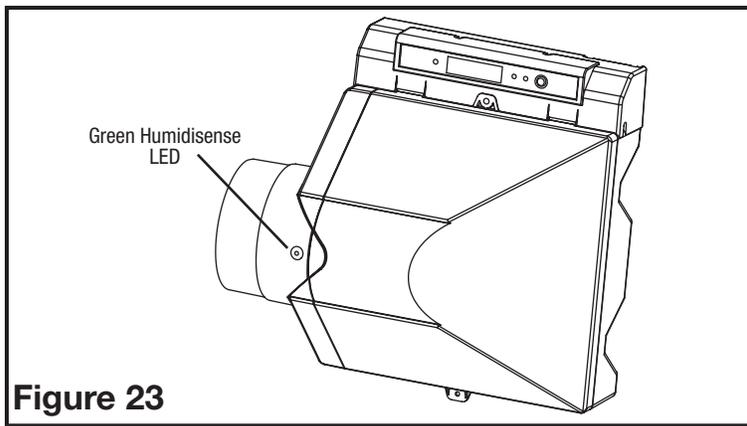

Figure 23
5. Depending on your furnace type the unit should turn on within approx 60 seconds of the furnace entering the HEATING cycle. You will know because the green "HUMIDISENSE" LED on the front of unit will turn on (Figure 23). If the unit does not turn on refer to the trouble shooting section in the Maintenance Guide.
7. After about 5 minutes of running turn your thermostat down so the furnace cycles off. IT IS IMPORTANT TO ALLOW THE FURNACE TO CYCLE OFF VIA THE THERMOSTAT AND NOT THE MAIN FURNACE SWITCH, AS ALL FURNACES WILL RUN A COOL DOWN TO ALLOW HEAT TO CIRCULATE OUT OF THE FURNACE HEATING CHAMBER. The humidifier will sense the temperature drop and shut off (this will occur depending on your furnace, from 60 seconds before the furnace shuts off to 60 seconds after the furnace shuts off.) You will know the humidifier has shut off because the green "HUMIDISENSE" LED on the front of the humidifier will shut off (Figure. 23). If the humidifier is not cycling properly refer to the HUMIDIFIER OPERATION section below to adjust the temperature settings or select another control method.